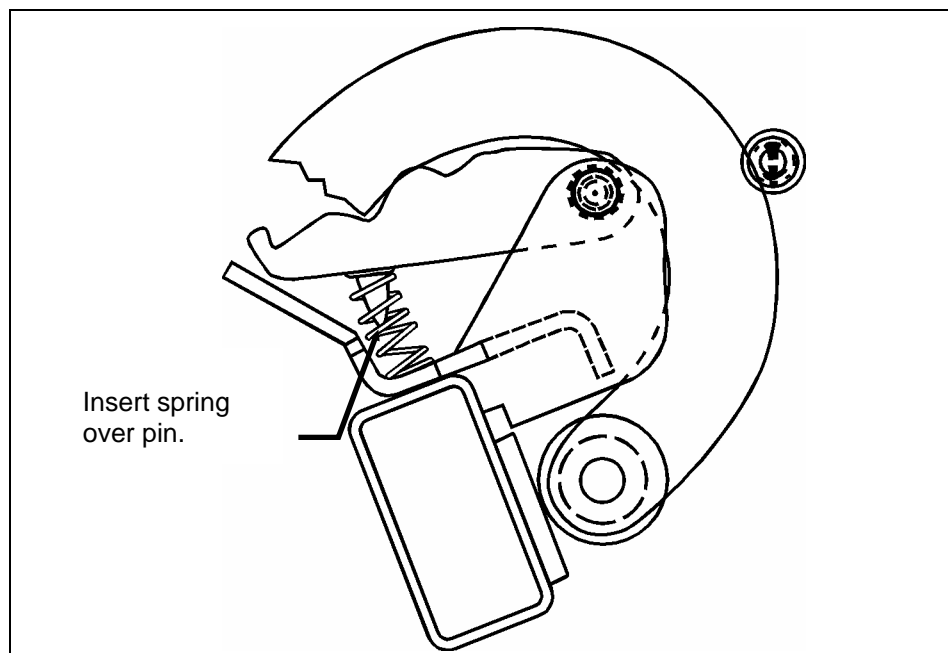

FIGURE 6
9. Insert spring (Prevost # 282311) as shown in Figure 6.